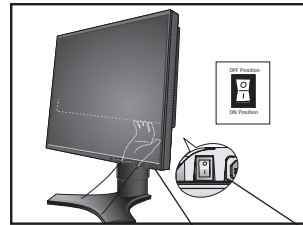

Figure 9 Power Button Vacation Switch
8. The vacation switch on the back side of the monitor near the AC inlet must be in the ON position for the monitor to function (Figure 9).